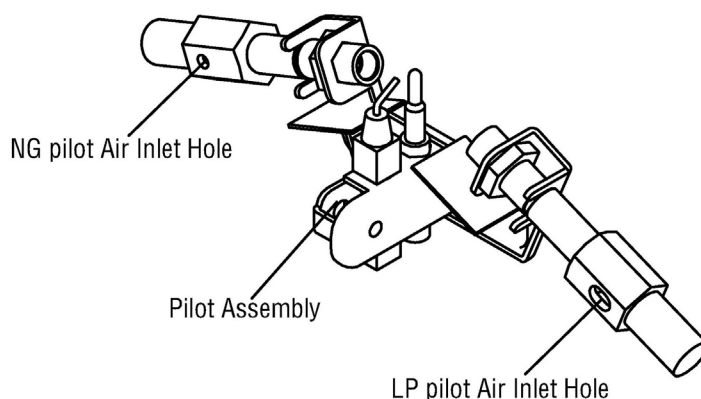

Figure 24 - Pilot Inlet Air Hole
3. Blow air through the ports/slots and holes in the burner. Also clean the pilot assembly. A yellow tip on the pilot flame indicates dust and dirt in the pilot assembly. There is a small pilot air inlet hole about two inches from where the pilot flame comes out of the pilot assembly (see Figure 24). With the unit off, lightly blow air through the air inlet hole. You may blow through a drinking straw if compressed air is not available.